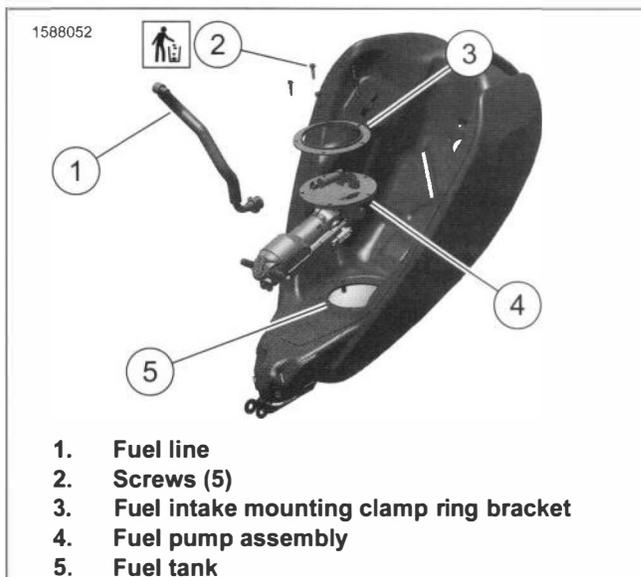

Figure 6-21. Fuel Pump Assembly (Fuel Pump Bracket)
1. See Figure 6-21. Release locks and slide clip outward. Disconnect fuel line (1).
- a. Remove and discard screws (2).
- b. Remove fuel pump clamp ring (3).
- c. Remove fuel pump assembly (4) from fuel tank (5).